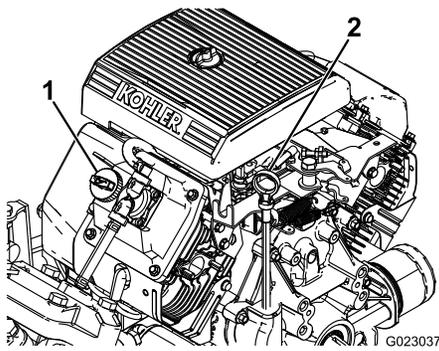

Figure 27
- Remove the dipstick and wipe it with a clean rag (Figure 27). Insert the dipstick into the tube and make sure it is seated fully. Remove the dipstick and check the oil level.
3. If the oil level is low, remove the filler cap from the valve cover (Figure 27) and pour oil into the opening until the oil level is up to the Full mark on the dipstick. Add the oil slowly and check the level often during this process. Do not overfill.
8. Slowly pour approximately 80% of the specified amount of oil into the oil filler tube (Figure 27).